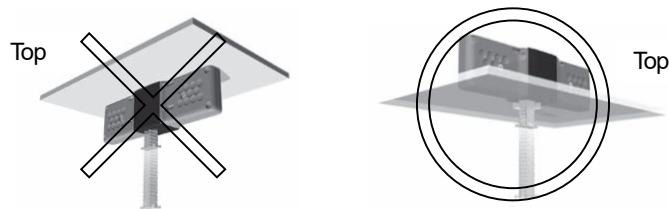

Fig. 2 Sample installation directions
6. ZCA can be installed in vertical, horizontal, or hanging application. For installation in horizontal and hanging applications, the unit may be damaged if the unit is used while the bolts are under the weight of the ZCA or additional loads. Ensure that the ZCA is placed in such a manner that the mounting bolts are not subjected to load. (Fig. 2)